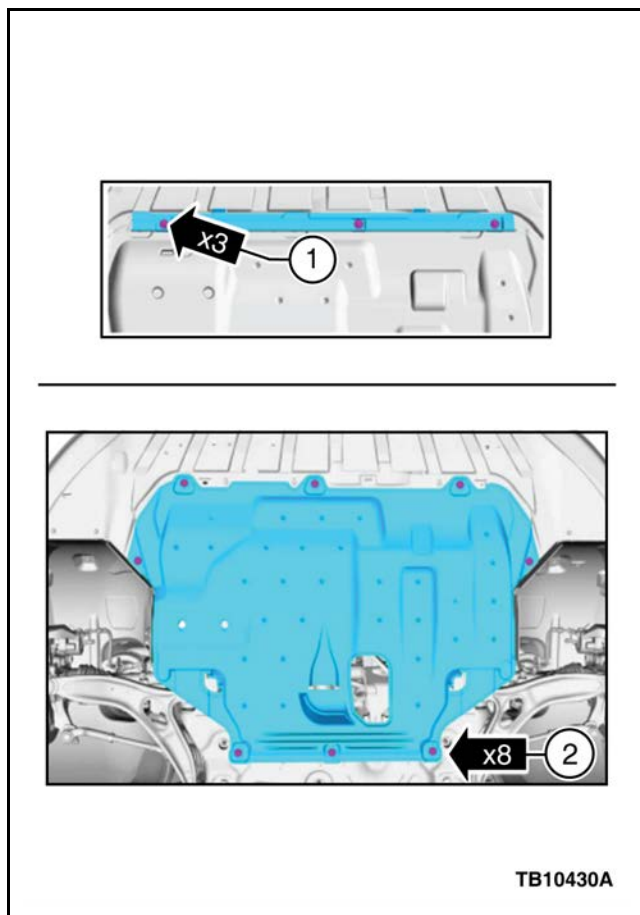

Figure 1 - Article 13-6-10
2. Remove the lower air deflector by removing the three (3) fasteners. (Figure 1)
3. Remove the engine compartment splash shield by removing the eight (8) fasteners. (Figure 1)